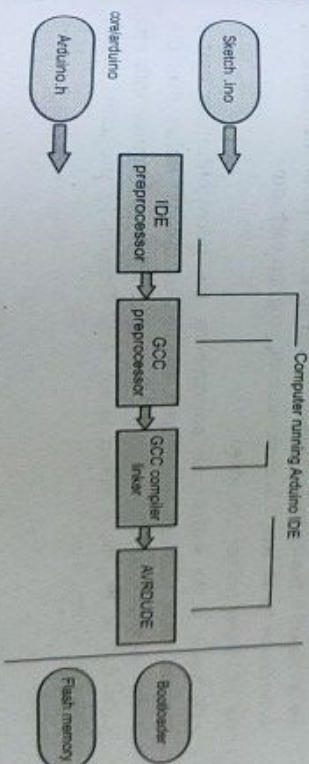

Fig. 5.4.1 Arduino Toolchain
- The USB device refer to connect to your Computer USB and loading with a program called Arduino Sketch IDE. Fig. 5.4.1 shows Arduino Toolchain.